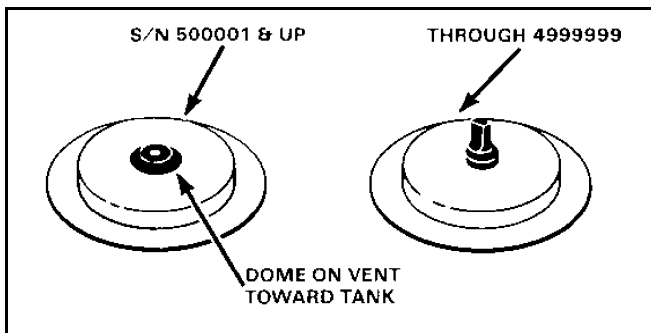

Figure 217
3. Remove the valve, squeeze the valve to close it, release it, and hold it up to a light. No light should be visible through the valve. If light can be seen, the valve should be cleaned or replaced (Figure 217). Serial Nos. 5000001 and up use a vent that does not require this test.